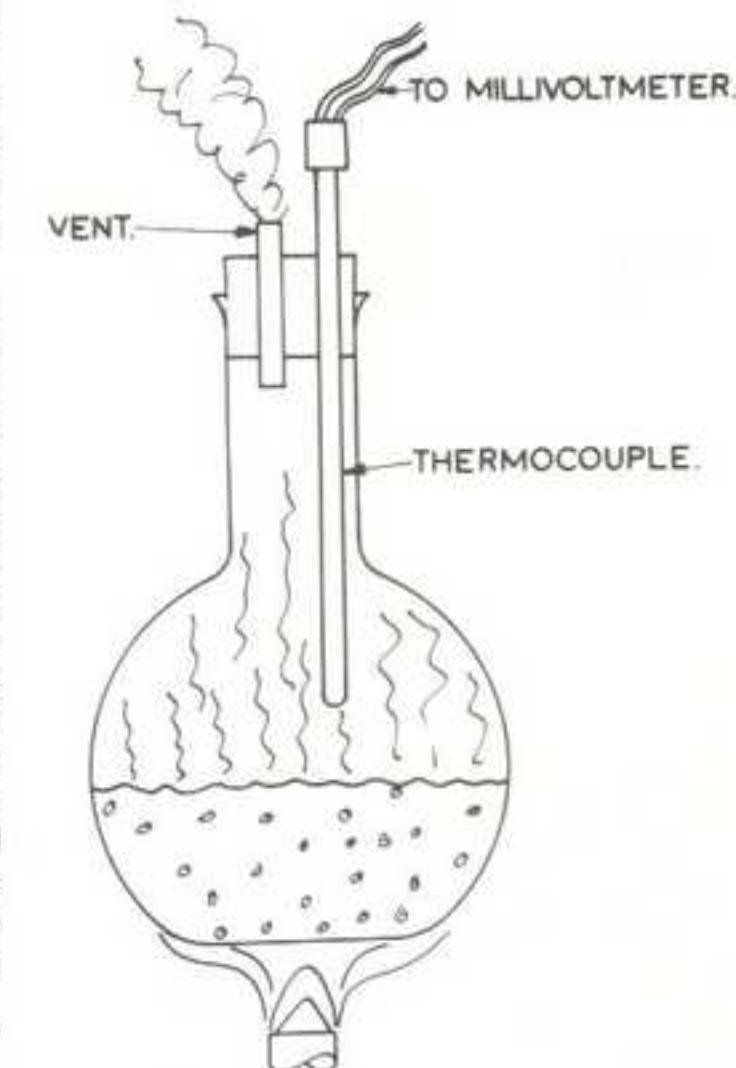

Fig. 65 One method of calibrating a thermocouple in steam. Any sort of container will do.
**Calibration.** This is simply a check on the table, and ought to be done just in case the meter resistance is not as stated (they all are made to a tolerance) and after a period, in case there has been a change in the characteristics of the couple elements. The lower end is done at 100°C. The thermocouple is set in the steam above boiling water — NOT in the water itself. See Fig. 65, though it can be done in an electric kettle just as easily. Make sure that the cold junction (i.e. the meter, if used as in Fig. 62) is at 15°C. Let the junction soak for about ten minutes and observe the reading. Let it cool a little, and repeat. Do this three times and take the mean. For an intermediate temperature you can, if you have a tempering salt bath